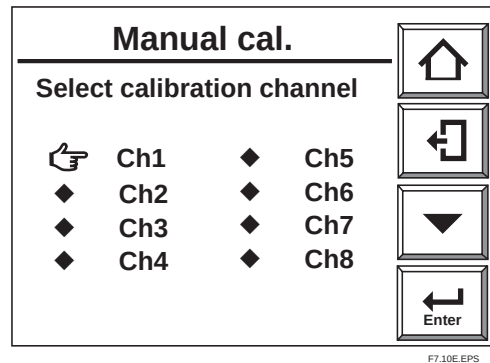

Fig. 7.10 Channel Select for Manual Calibration
- 4) Touch [Manual calibration] then the [Enter] key. The Channel Select display shown in Fig. 7.10 appears.
- 16) Select [End] and touch the [Enter] key. The oxygen concentration graph is displayed and the [HOLD TIME] status mark appears. The graph trace changes gradually from zero gas concentration to measured gas concentration. During this "Output settling time" if "Output hold" is set, then the analog output is held at the corresponding preset value. For details of "Output hold" refer to "Sec. 8.1.2 Output hold setting". Shipping-time default setting is for settling time to be set to 3 minutes. After the settling time has elapsed then the display reverts to channel select (Fig. 7.10) so that you can select another channel for calibration. If you touch the enter key during settling time then settling time is skipped and you are returned to the channel select display.